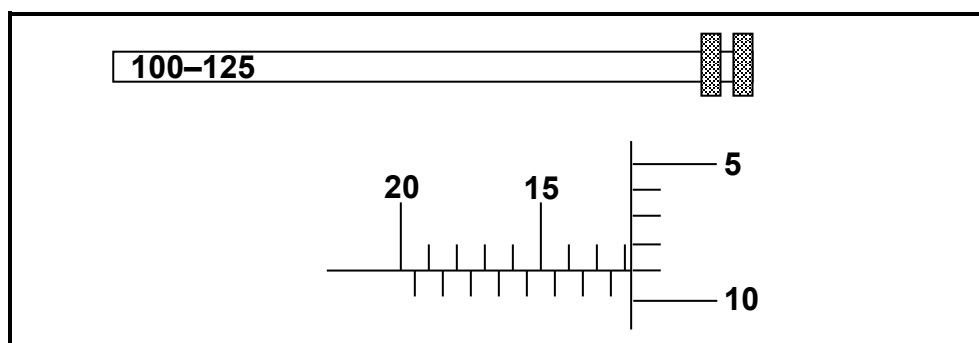

FIGURE 7.4
- 7.4 What is the reading on the depth micrometer, as shown in FIGURE 7.4 below?